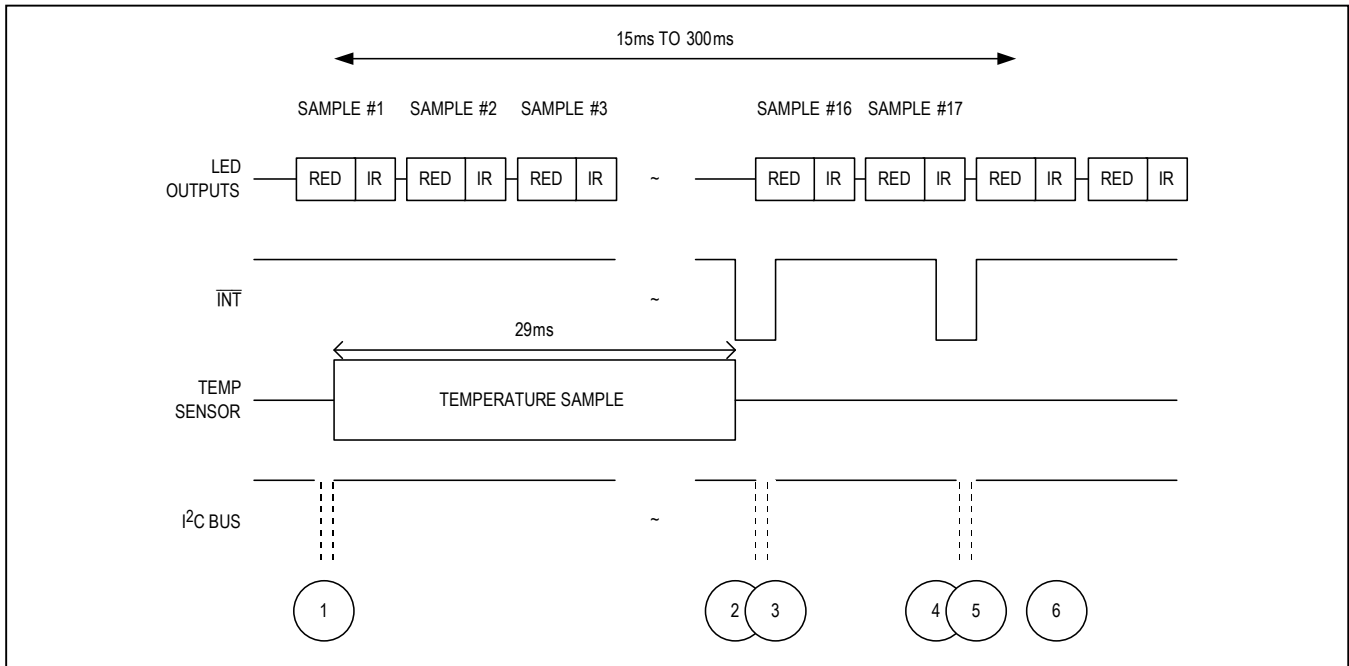

Figure 4. Timing for Data Acquisition and Communication When in SpO2 Mode
interpret SpO2 data (Figure 4), but the temperature does not need to be sampled very often – once a second or every few seconds should be sufficient.
**Table 15. Events Sequence for Figure 4 in SpO2 Mode**